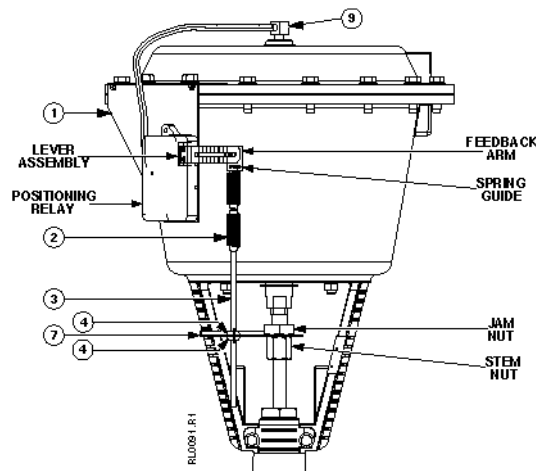

Figure 1. Mounting Parts.
9. Attach the connector (9) to the actuator. See *Figure 1*.